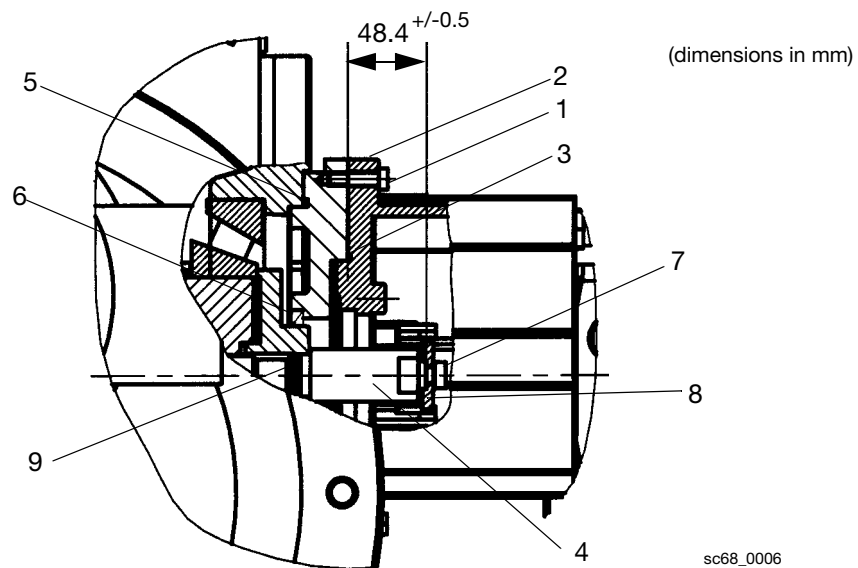

Fig. 9:
- undo hood fastening screws (1)
- pull the hood (2) from the pivot (4) and put it aside
- replace the O-ring (2)
- undo the flange screws (not shown in fig. 9)
- pull the flange carefully from the pivot (4)
- replace the O-ring (5) and the sealing ring (6)
- put a spanner on the spanner flat of the pivot (4) and undo the pivot
- replace the O-ring (9); grease the new O-ring prior to re-tightening the pivot